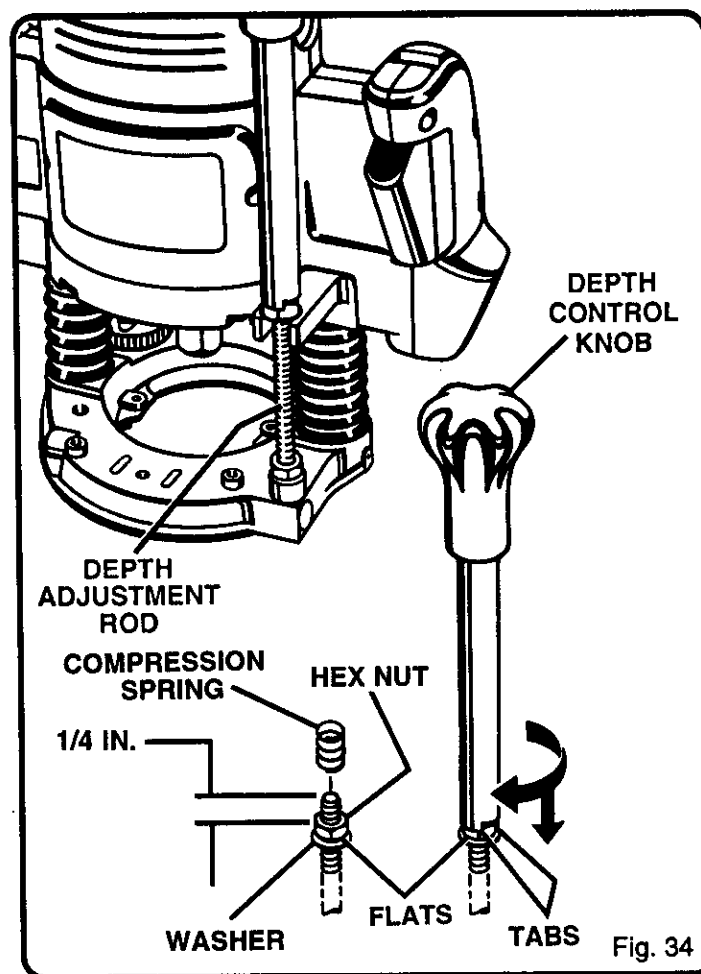

Fig. 34
See Figure 34.
3. Place compression spring on top of hex nut as shown in figure 34.